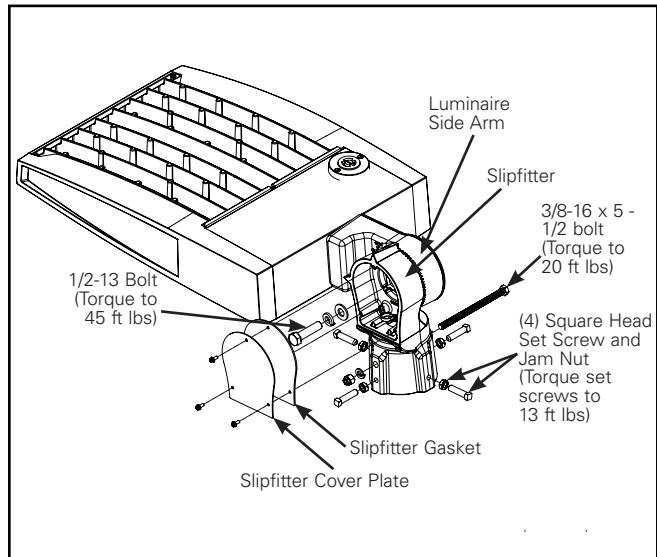

Figure 2b.
4. Slide lock washer and flat washer onto (1) 1/2-13 grade 8 bolt.
6. For horizontal tenon mounting, a 3/8" diameter thru bolt is required to be installed in .400" hole provided on the slipfitter. The .400" hole is located 2" from bottom of slipfitter to center of hole. (Figure 2b.)
11. Install the slipfitter onto the tenon carefully and tighten (4) slipfitter square head set screws temporarily.
13. Use (3) hex head screws to place cover on the slip fitter.